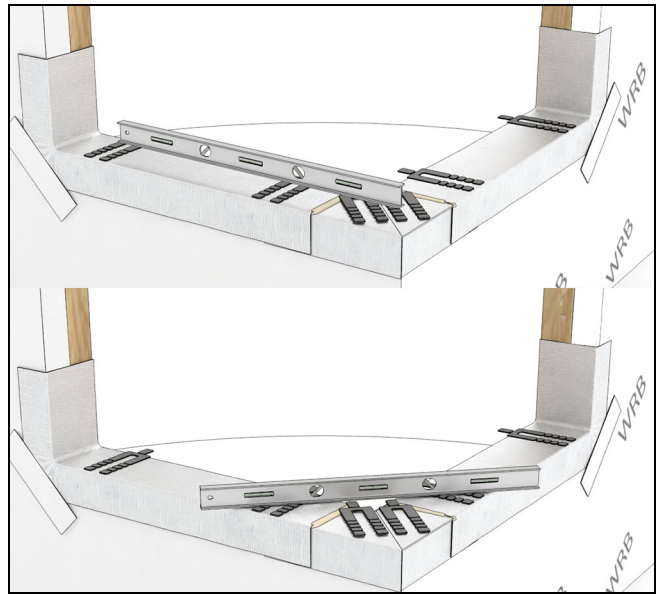

Figure 36
2. Level the shims as necessary to make sure both legs are level. See Figure 36.